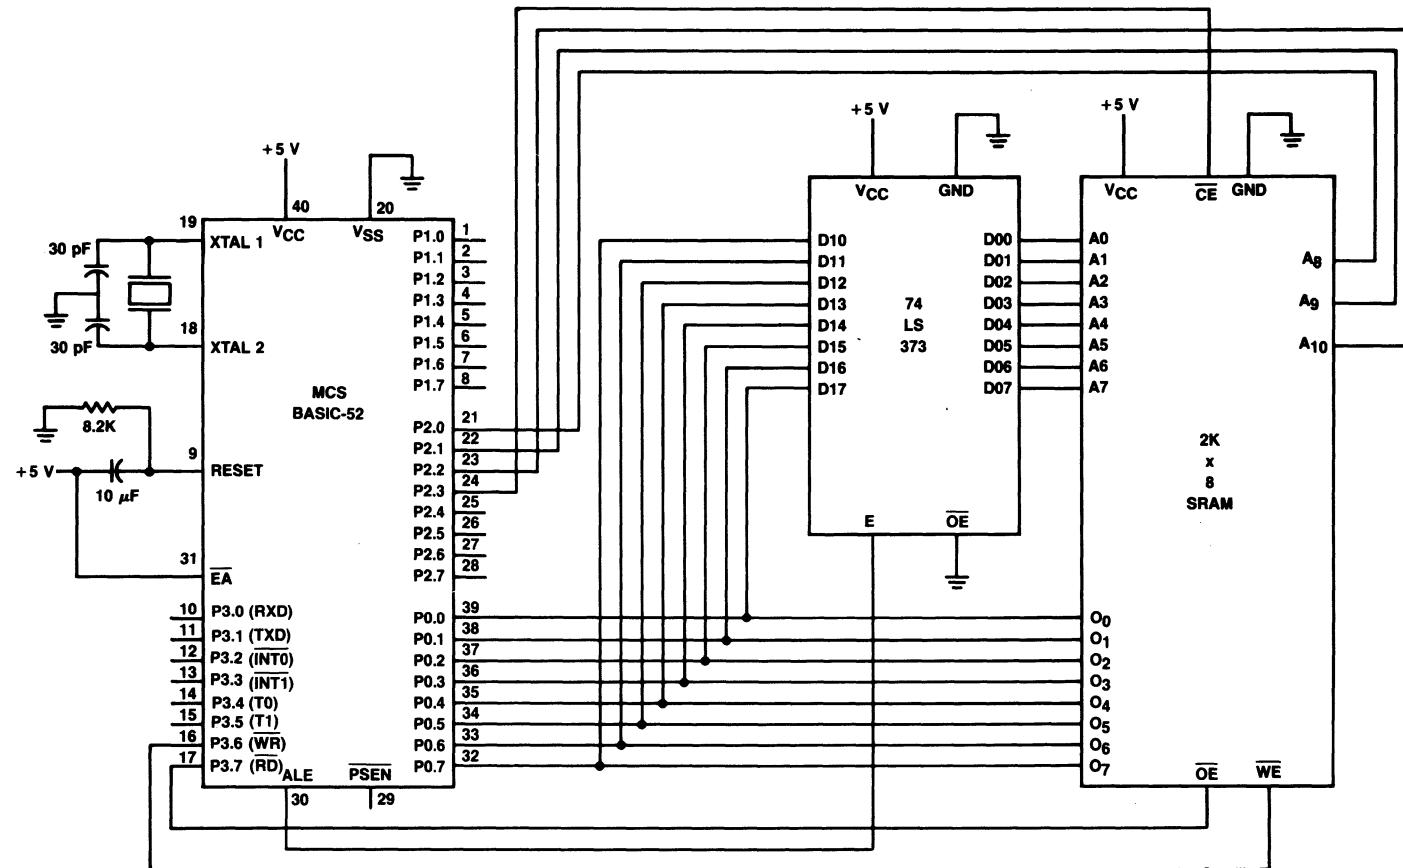

Figure 1. Interface to 2K x 8 Static RAM
In this mode of operation, Read/write memory is connected to the MCS BASIC-52 device starting at memory address 0000H. Memory can be placed up to location 0FFFFH. In this mode of operation the decoded addresses are used to generate the CHIP SELECT (CS) signal for the RAM devices. The RD pin on the 8052AH is used to generate the OUTPUT ENABLE (OE) strobe and the WR pin generates the WRITE ENABLE (WE or WR) strobe. PSEN is not used in the RAM only mode of operation. The RAM only mode of operation offers the simplest hardware configuration available for the MCS BASIC-52 device. An example of this configuration is shown in Figure 1. Since PSEN is not used in the RAM only mode, the user may not CALL assembly language routines. The RAM only also does not support EPROM programming. In general, the RAM only mode will be used only to "check out" the device during the initial system development stage.